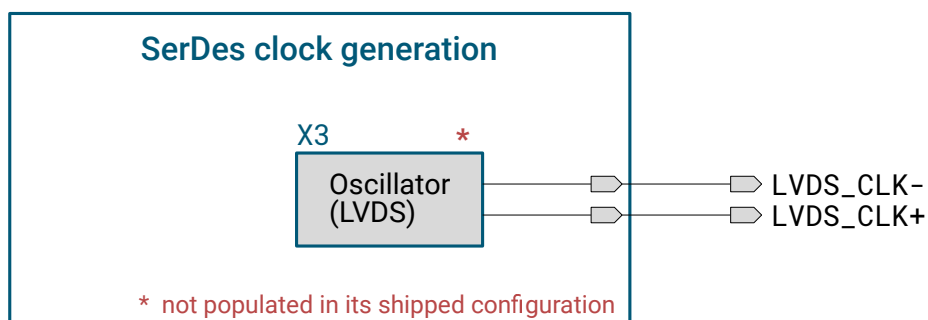
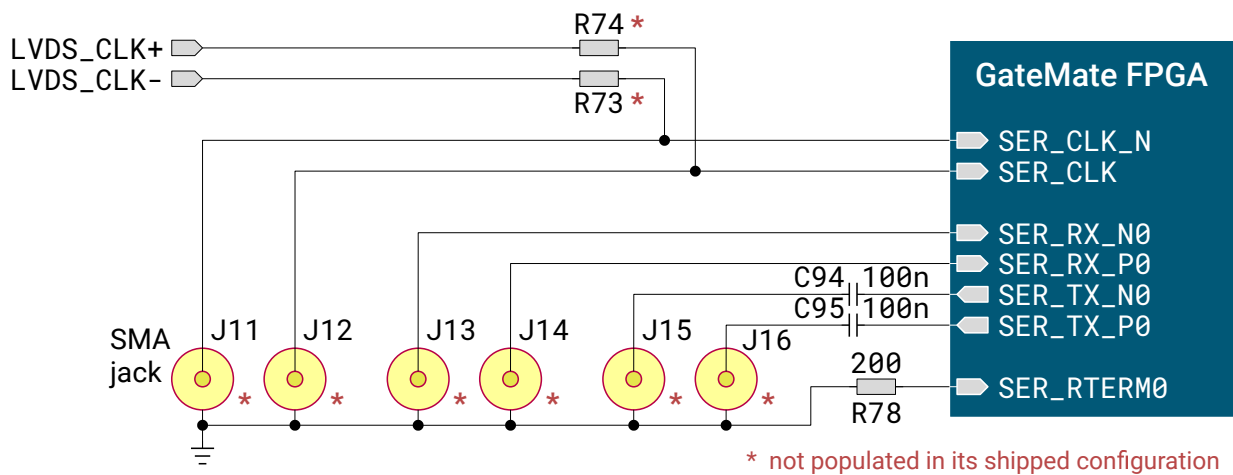

Figure 3.12: Optional SerDes clock (LVDS clock oscillator)
Figure 3.17: *Optional SerDes interface*
Finally, a low-voltage differential signaling (LVDS) clock oscillator can be populated to generate a Serializer / Deserializer (SerDes) input clock as shown in Figure 3.12. Please note, that also series resistors R73 and R74 have to be populated (see Figure 3.17 on page 36).
The evaluation board is prepared to offer a SerDes interface. Figure 3.17 shows, that the SMA jacks J13 .. J16 must be populated from the user to get access to the CCGM1A1 SerDes interface.
2. An on-board LVDS oscillator and the series resistors R73 and R74 are populated (see also Figure 3.12 on page 30).